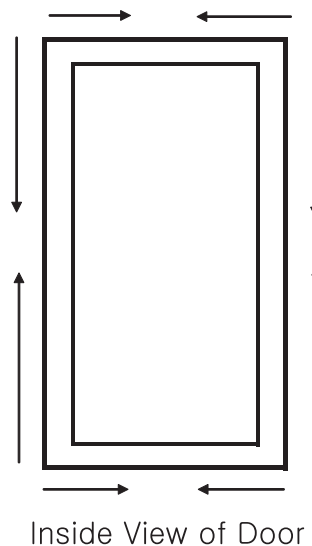

Fig 9-41
4. To install the replacement door gasket, start snapping it into the groove at the top of the door. Begin at the two corners and move evenly from each side towards the middle as shown below. (Fig 9-41)
5. Work the gasket evenly down both sides and then across the bottom. (Fig 9-41)